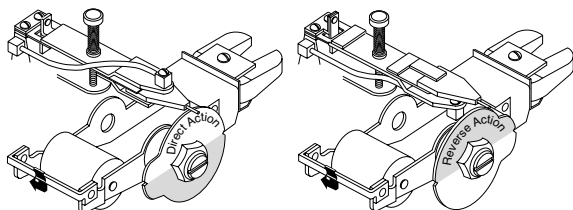

Figure 10
Should it be required to change the controller action, the action cam can be manually rotated 180° to the desired action. Make certain that the notch in the cam is set into the tab of the pilot nozzle assembly. Cam actions are clearly marked on the cam face as indicated in Figure 10. A zero adjustment will normally be required upon change.
2. Check that the pilot nozzle assembly is set up for differential gap operation. Figure 10 on page 9 illustrates the pilot nozzle flapper configurations used for the two control modes, proportional and differential gap. If your unit is already set up for differential gap mode, proceed to step 3.